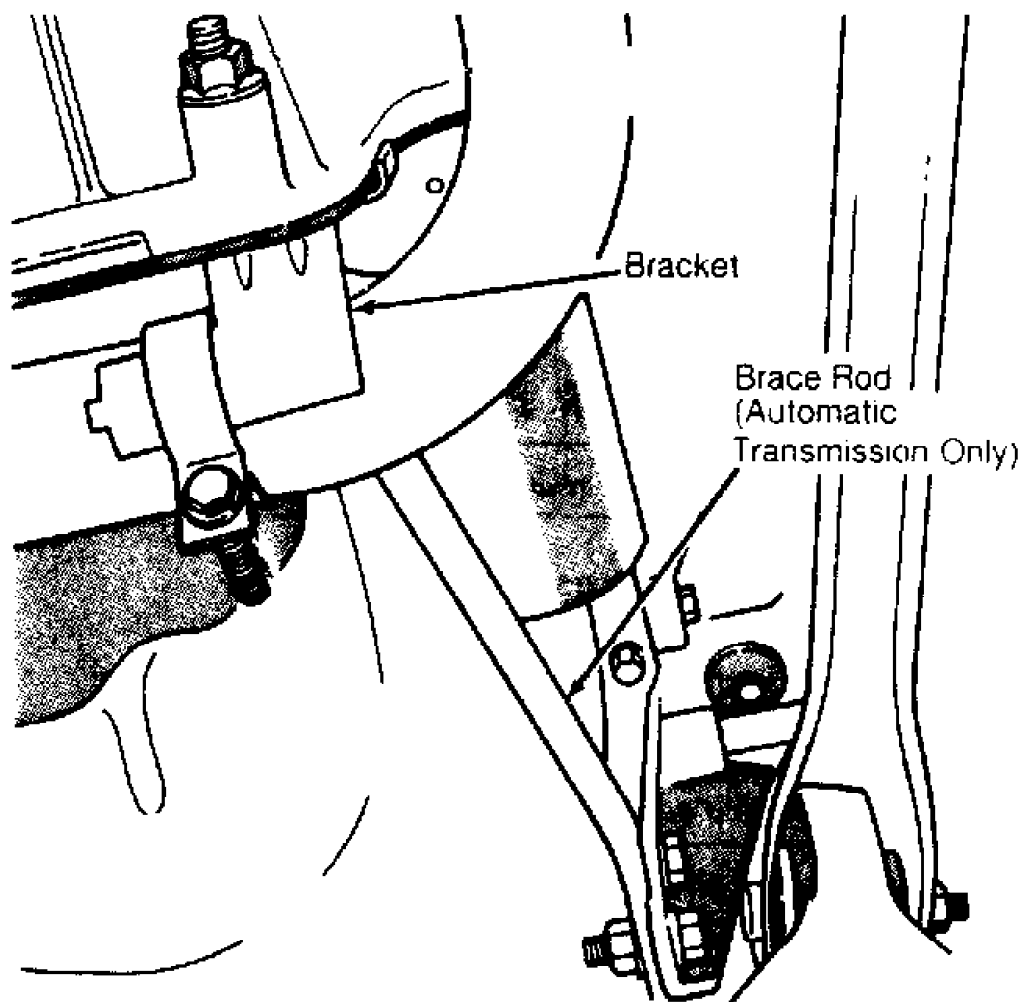

Fig. 3: Removing Engine Exhaust Clamp & Brace (2.5L)
1) Disconnect negative battery cable. Remove exhaust pipe clamp from bracket. See Fig. 3. On Cherokee with automatic transmission, remove nut and bolt from forward end of brace rod. Remove brace rod and bracket.